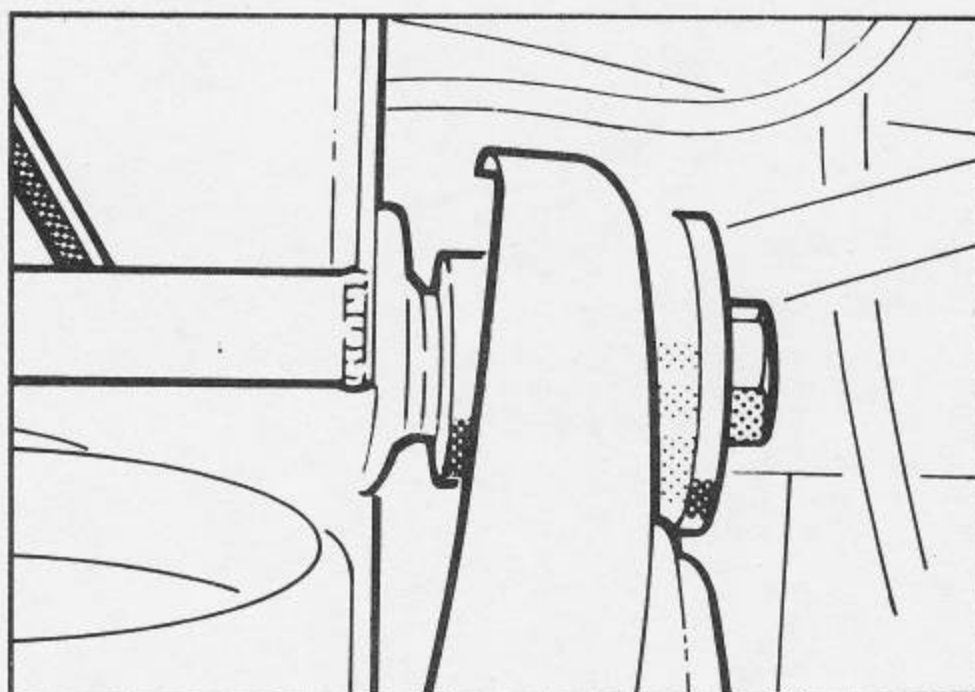

Fig.44 Fit pivot bolt.
11. Place the upper arm in position and secure to the chassis with the bolt, washer and nut, tightening to a torque of 60 Ft. Lbs. Fit new split pin. Fig.44